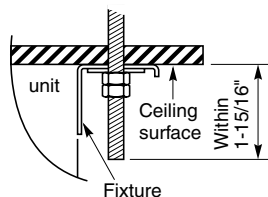
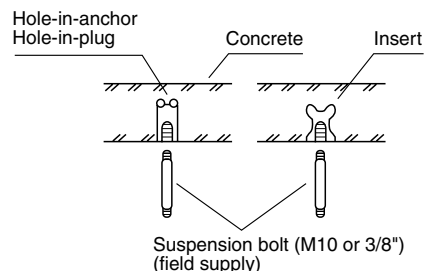

Fig. 3-116
Fig. 3-114
- (2) Drill holes at the 4 points indicated on the full-scale diagram.
- (3) Depending on the ceiling type:
- a) Insert suspension bolts as shown in Fig. 3-114.
- (4) Screw in the suspension bolts, allowing them to protrude from the ceiling as shown in Figs. 3-114 and 3-115. The distance of each exposed bolt must be of equal length within $1-15/16$ ". (Fig. 3-116)